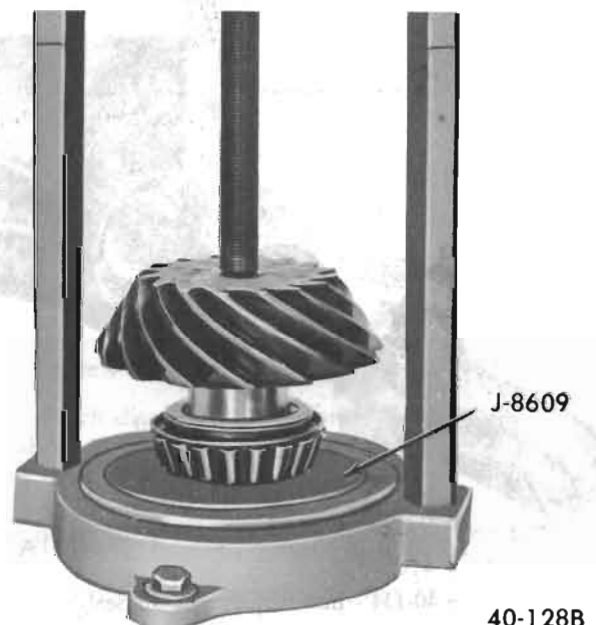

Figure 40-133 - Installing Rear Pinion Bearing
13. Position correct shim on pinion shaft and install rear pinion bearing. Use Installer J-8609 on 8 1/2 inch ring gear axles or Installer J-6377-01 on 9 3/8 inch ring gear axles. See Figure 40-133.